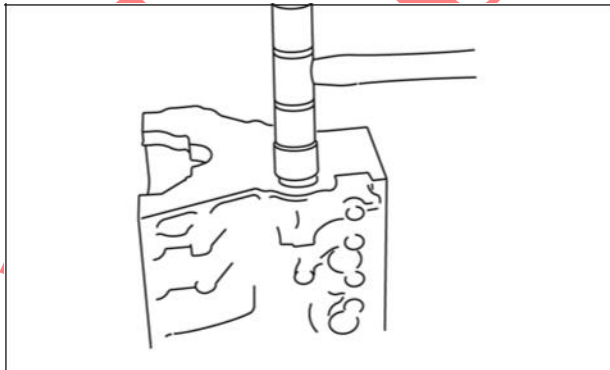

Figure 7
2. Using Camshaft Bearing Driver #19422, install camshaft bearing (Figure 7).